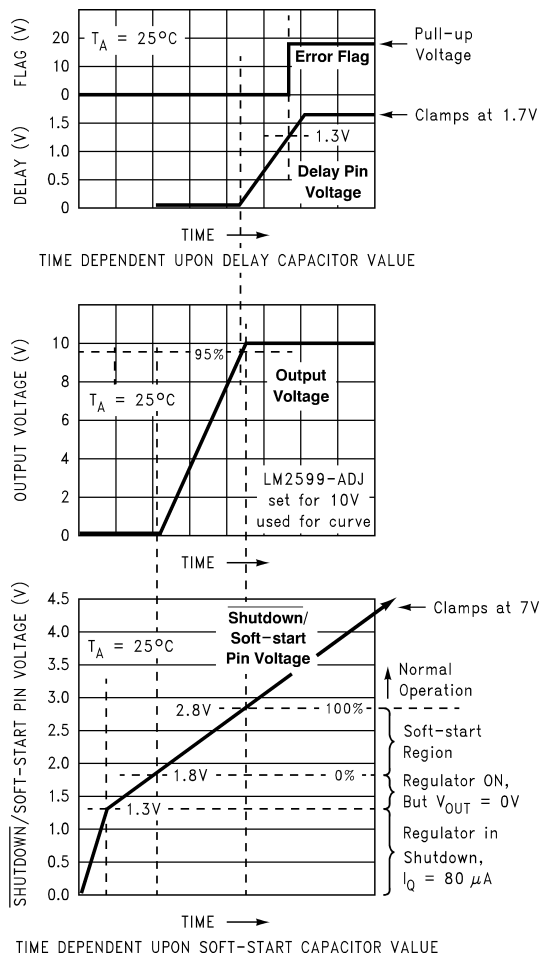

Figure 28. Soft-Start, Delay, Error, Output
The capacitor on this pin provides the regulator with a soft-start feature (slow start-up). When the DC input voltage is first applied to the regulator, or when the Shutdown/Soft-start pin is allowed to go high, a constant current (approximately 5  $\mu$ A) begins charging this capacitor). As the capacitor voltage rises, the regulator goes through four operating regions (see the bottom curve in Figure 28):
3. Soft-start Region: When the  $\overline{SD/SS}$  pin voltage is between 1.8 V and 2.8 V (at 25°C), the regulator is in a soft-start condition. The switch (Pin 2) duty cycle initially starts out very low, with narrow pulses and gradually get wider as the capacitor  $\overline{SD/SS}$  pin ramps up towards 2.8 V. As the duty cycle increases, the output voltage also increases at a controlled ramp up (see the center curve in Figure 28) The input supply current requirement also starts out at a low level for the narrow pulses and ramp up in a controlled manner. This is a very useful feature in some switcher topologies that require large start-up currents (such as the inverting configuration) which can load down the input power supply.
The lower curve shown in Figure 28 shows the soft-start region from 0% to 100%. This is not the duty cycle percentage, but the output voltage percentage. Also, the soft-start voltage range has a negative temperature coefficient associated with it. See the soft-start section in Electrical Characteristics – All Output Voltage Versions.
This capacitor provides delay for the error flag output (see Figure 28 and Figure 29). A capacitor on this pin provides a time delay between the time the regulated output voltage (when it is increasing in value) reaches 95% of the nominal output voltage, and the time the error flag output goes high. A 3- $\mu\text{A}$  constant current from the delay pin charges the delay capacitor resulting in a voltage ramp. When this voltage reaches a threshold of approximately 1.3 V, the open-collector error flag output (or power OK) goes high. This signal can be used to indicate that the regulated output has reached the correct voltage and has stabilized.